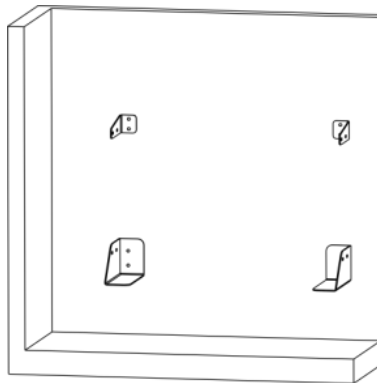

Figure 3-7
5. Stack the required number of battery and bracket combinations as described above, and fix the screws, twisting force keeps $9.8\text{N} \cdot \text{m}$. Shown as Figure 3-7.